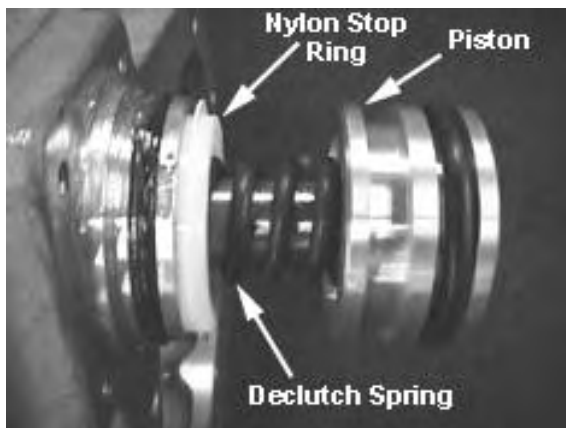

Fig. 79
37. Install the declutch shift spring, nylon stop ring, and shift piston onto shift shaft. Use Loctite #272 on threads and torque piston retaining nut to spec. *See Fig. 79.*